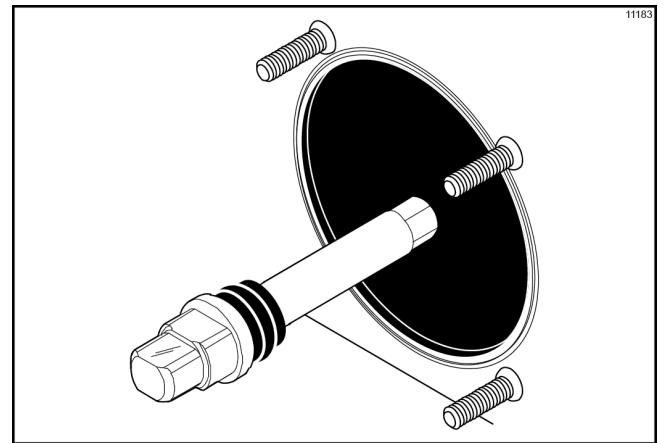

Figure-129
2. Insert the beater driveshaft through the rear shell bearing in the freezing cylinder and engage the hex end firmly in the drive coupling. (See Figure-129.)